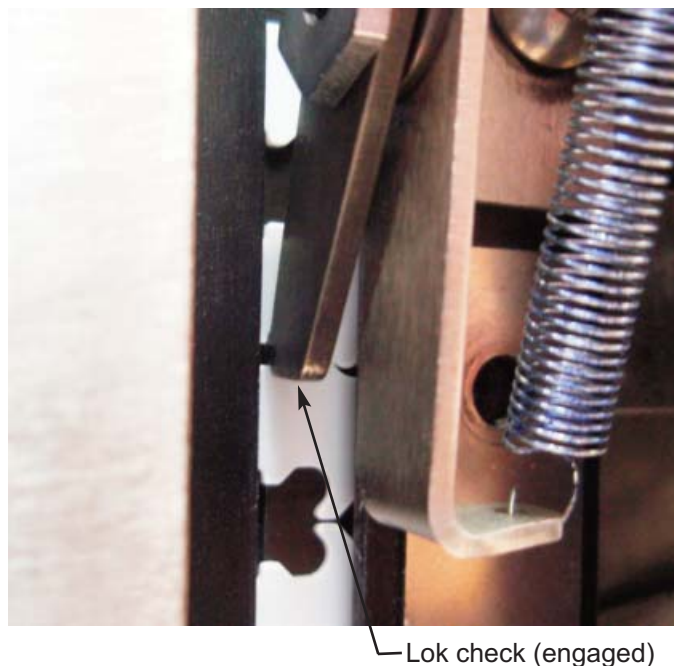

Figure 3.3
5. Press the **START** button on the 893A touch screen. The lok check engages the closure strip (Figure 3.3). The closer positions the strip in the closing position. The strip cleaner will turn off after the cycle of the closer.